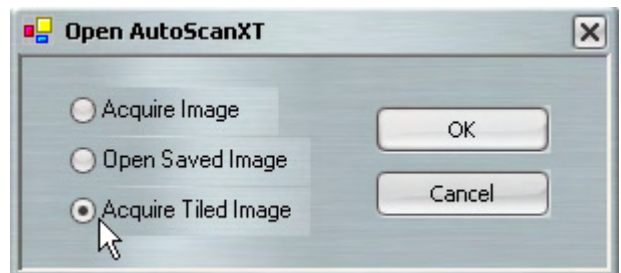
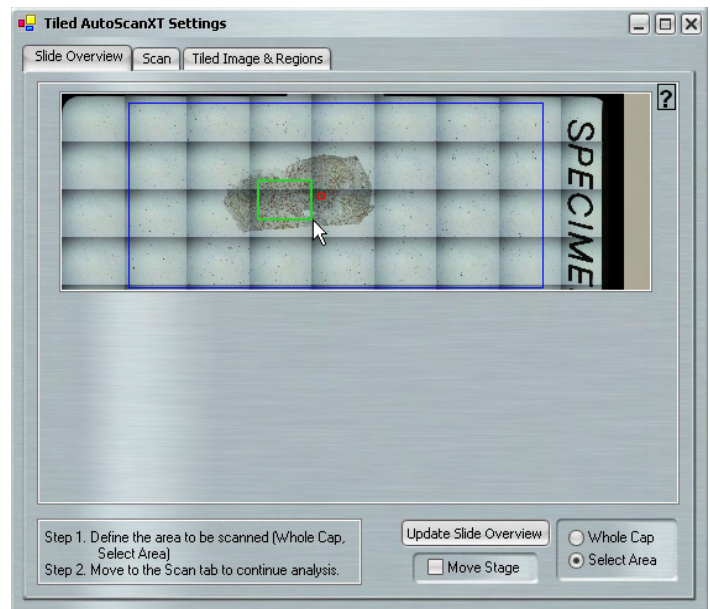

Figure 10. Open Saved Image File.
Figure 11. Tiled Image AutoScanXT.
7. If desired results have not been achieved, you may add texture and/or morphology analysis layers by clicking on the appropriate tab (Figures 10 and 11), further refining the definition of the ROI areas for microdissection. See Sections 8 and 9 for further information.
2. In the AutoScanXT window, select “Acquire Tiled Image” and then click OK (Figure 10). The “Tiled AutoScanXT Settings” window will appear, with a copy of the overview image in the center (Figure 11).
3. Click on either the “Select Area” or “Whole Cap” radio button in the lower right corner of the Slide Over tab (Figure 11).
- a. **Tiled Image:** Using the mouse or stylus, draw a box within the overview image to designate the scan area (Figure 11). A green box will appear in the overview image.